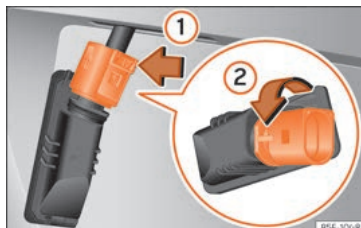

Fig. 122 Number plate light: detach the bulb holder.
3. Turn the connector lock »» Fig. 122 in the direction of arrow ① and pull on the connector.
4. Rotate the bulb holder in the direction of arrow ② and extract it with the bulb.
6. Insert the bulb holder in the number plate light and turn in the opposite direction of arrow ② until it stops.